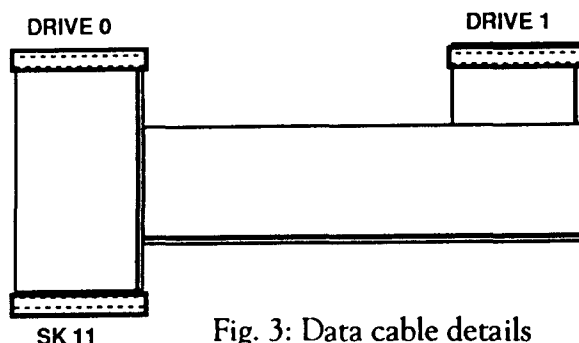

Fig. 3: Data cable details
- 3 Unplug and remove the ribbon-type data cable which connects SK11 on the main printed circuit board to the connector on the rear of the original disc drive 0. Plug the centre connector on the new dual drive cable assembly to drive 0 and the end connector to SK11 (see Fig. 3).